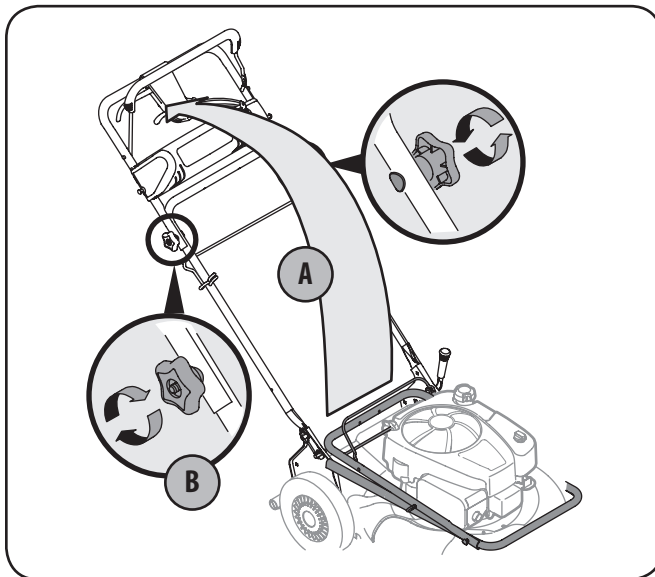

Figure 3-1
- a. Pull up and back on upper handle as shown in Figure 3-1. Make certain the lower handle is seated securely into the handle mounting brackets. Do not crimp cables while lifting the handle up.